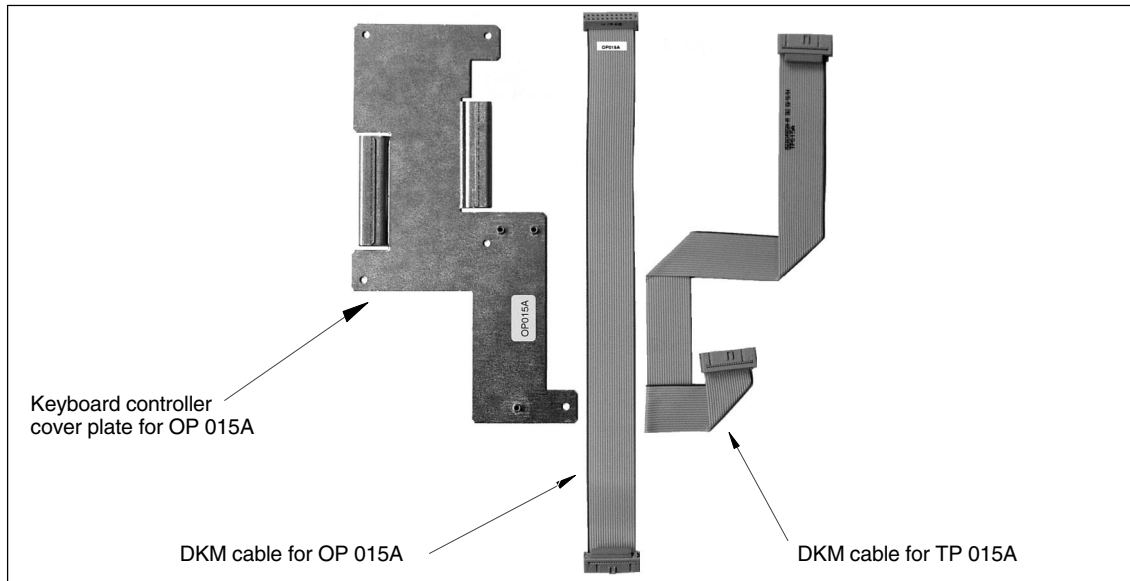

Fig. 11-4 DKM installation kit for OP 015A and TP 015A
1. Insert the *non*-rubber-coated end of the DKM ribbon cable (Figure 11-4; labeled "OP 015A") into socket X11 on the keyboard controller (see illustration below, observe folding).
2. Screw down the cover plate supplied with the installation kit and labeled "OP 015A" (see Figure 11-4).
1. Insert the DKM ribbon cable (Figure 11-4; labeled "TP 015A") into socket X11 on the keyboard controller (see illustration below).